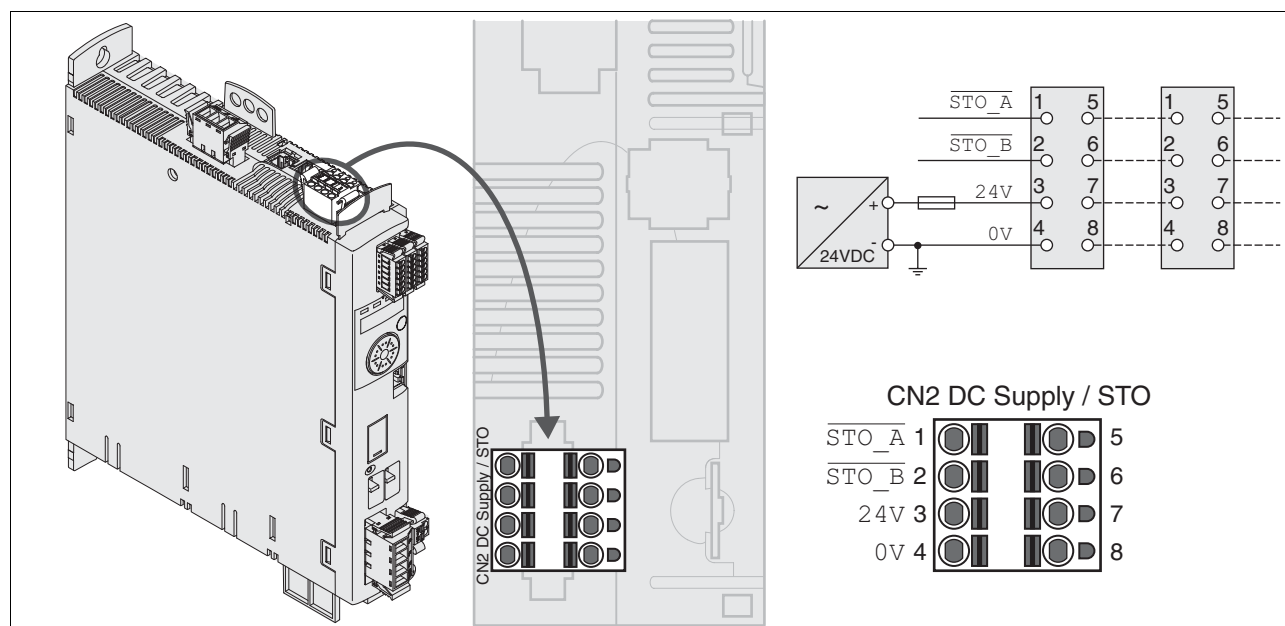

Figure 6.17 Wiring diagram controller supply voltage
- Connection CN2, pins 3 and 7 as well as CN2, pins 4 and 8 (see Figure 6.17) can be used as 24V/0V connections for additional consumers.¹ Note the maximum permissible terminal current ("Properties of spring terminal CN2").